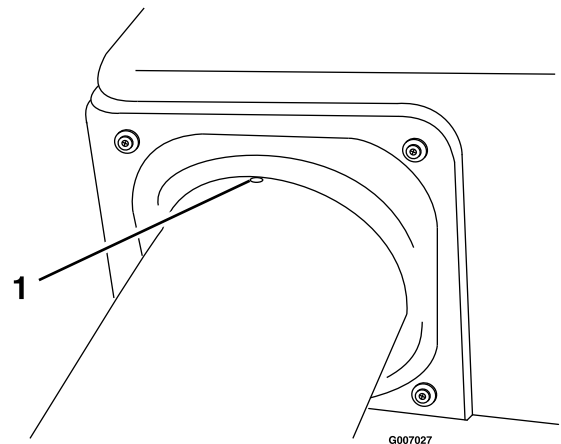

Figure 14
16. Align the dimple on the upper tube with the end of hood assembly and center between the two screws as shown in Figure 14.